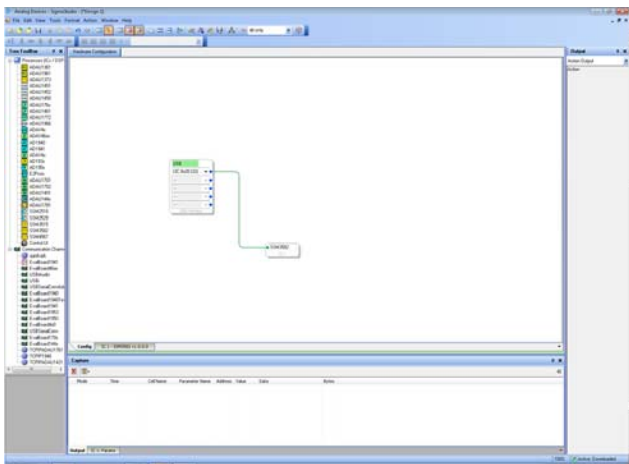

Figure 5. USBi to SSM3582 Configuration
6. Connect the USBi board to the **SSM3582** block or the **SSM3582A** block on the **Hardware Configuration** tab schematic (see Figure 5 for the SSM3582 example).